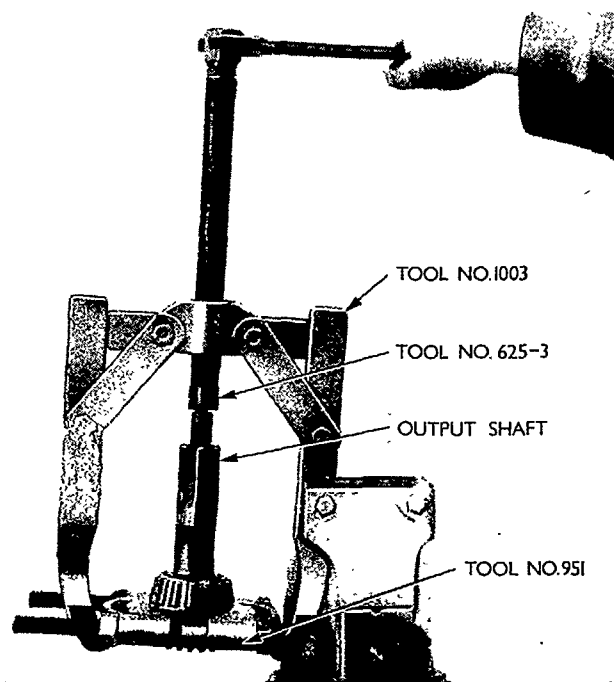

Figure 9
4. Inspect the output shaft bearing cone and roller assemblies for excessive wear or damage. Renew if necessary. Remove the inner bearing cone and roller assembly using Tools Nos. 951, 1002 and 625-3, Figure 9. Install using Tools Nos. 951, 1003, 625-3 and a suitable sleeve.